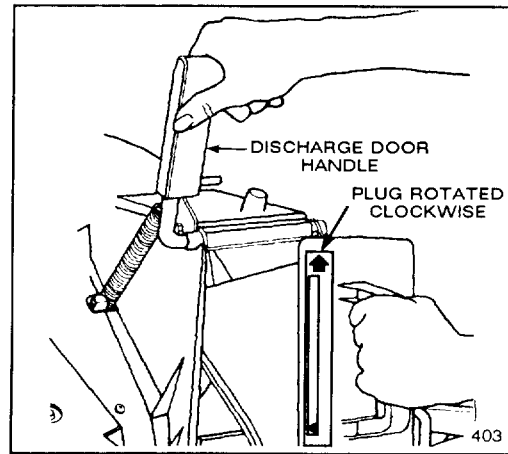

Figure 5
1. Open the discharge door by pulling forward on the handle and moving it rearwards (Fig. 5). Hold the discharge door handle to prevent the spring-loaded door from closing while inserting the plug.
2. Since the plug is slightly wider than the discharge tunnel opening, rotate the plug clockwise slightly while inserting it (Fig. 5). Make sure the arrow on the plug decal is pointing upwards.